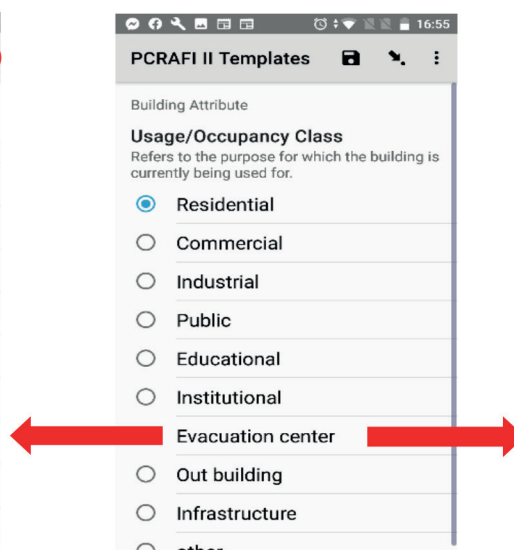

Figure 66: KoBoCollect - User is able to swipe (left/right) from question to question
- To move onto the next question/access the previous question within a template, the user can also swipe either left or right (Figure 66)